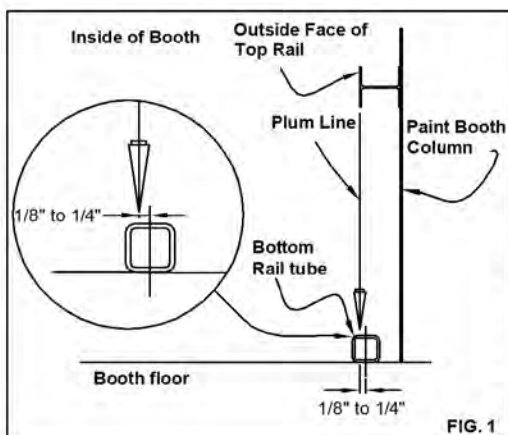

FIG. 1
- A. After top rail has been installed, locate the bottom rail tube as shown in figure 1. Drop a plumb line from the outside face of the top rail to the booth floor. The bottom rail tube center line should be between $\frac{1}{8}$ " to $\frac{1}{4}$ " offset toward the booth wall (see figure 1)